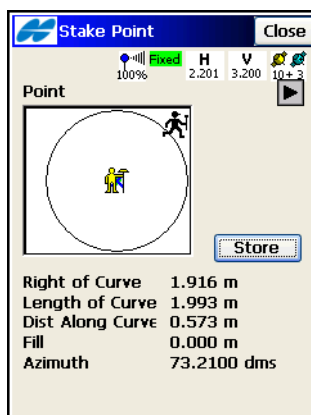

Figure 9-19. Stakeout Curve
- For GPS+: use the information on the Stakeout **Curve** screen to find the target curve (Figure 9-19). Tap **Store** after the point is close enough to the curve and at the desired distance from the starting point.